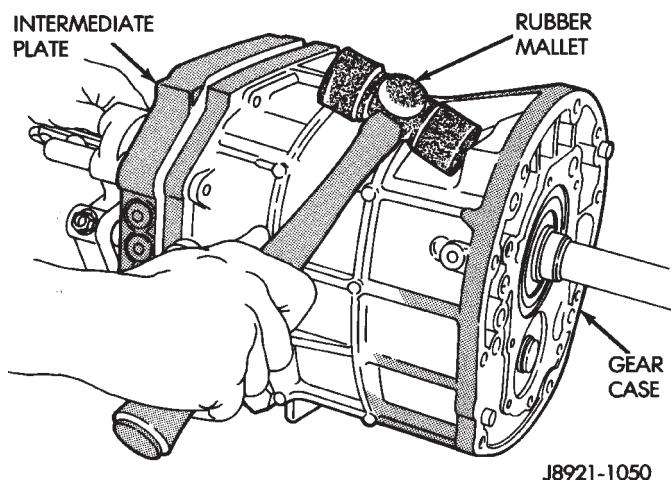

Fig. 31 Separate Intermediate Plate and Transmission Case
(23) Separate intermediate plate and transmission case by tapping them loose with plastic mallet (Fig. 31).